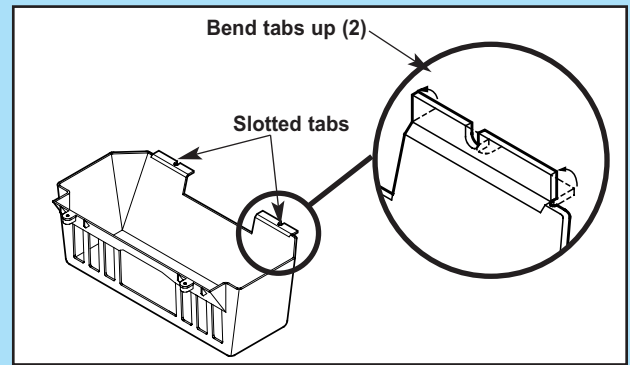

Fig. 11-1
2. **Bend two (2) slotted tabs up.** This will activate the "living hinge" of the lens (Fig. 11-1).